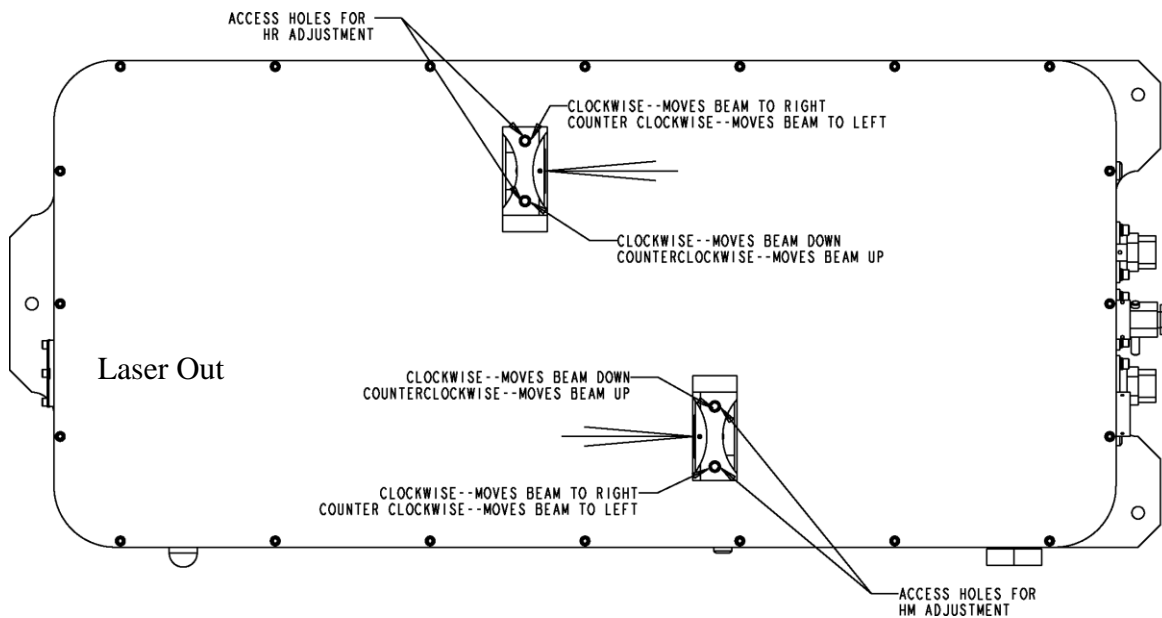

Figure 5-7. Accessible Holes for HR and HM Cavity Mirror Adjustment
- a. Locate the access holes for high-reflection (HR) and harmonic mirrors (HM). Notice the positions of HR and HM mirrors with respect to the direction of the laser output in **Figure 5-7**.
- d. The screws for the adjustments of the vertical tilt angle and the horizontal tilt angle are illustrated in **Figure 5-7**.